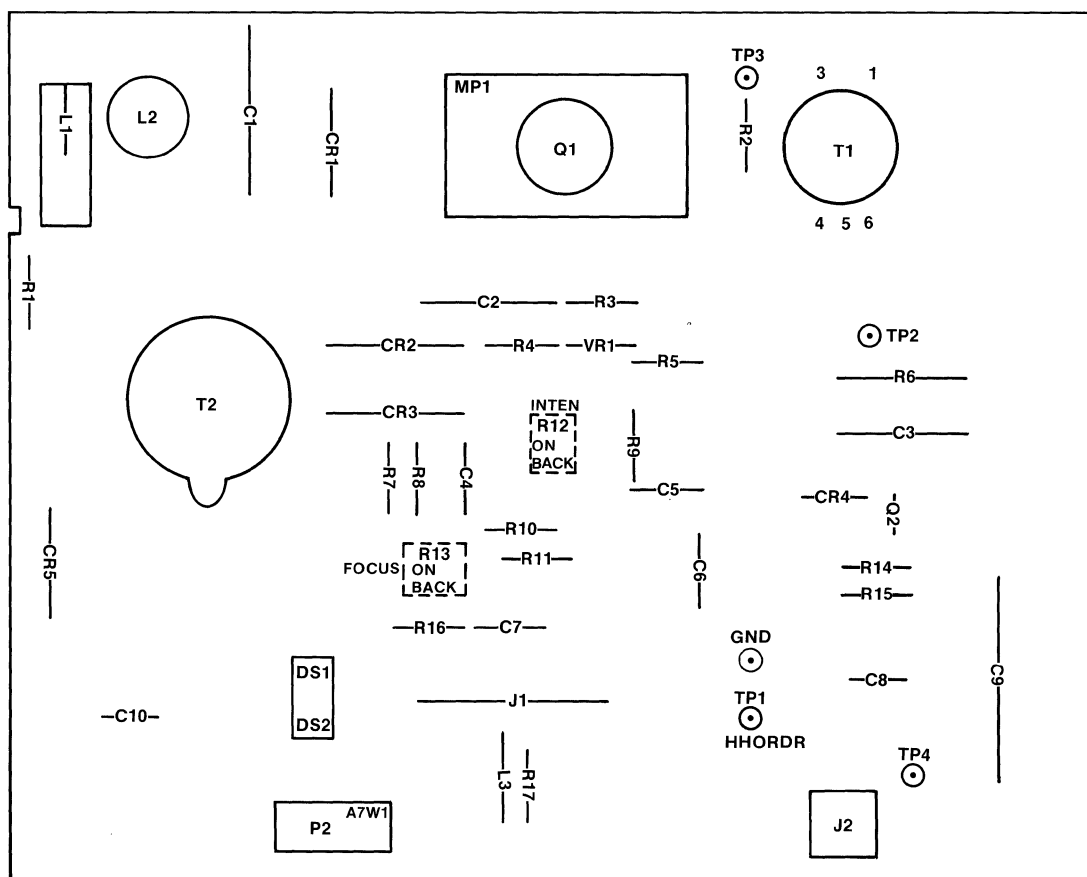

Figure 6-1. CRT Display Discharge Point
- f. Remove the top cover MP1. Refer to figure 6-1.